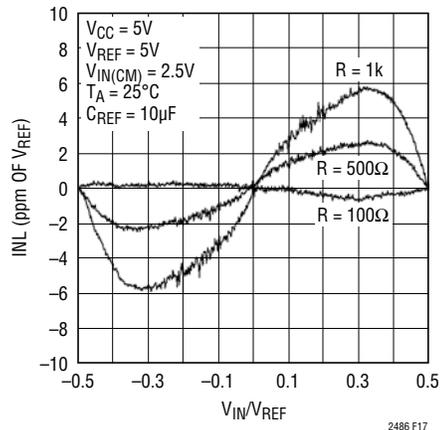

Figure 17. INL vs Differential Input Voltage and Reference Source Resistance for $C_{REF} > 1\text{ }\mu\text{F}$
0.67 ppm per $100\text{ }\Omega$ of reference resistance results (see Figure 17). In applications where the input and reference common mode voltages are different, the errors increase.